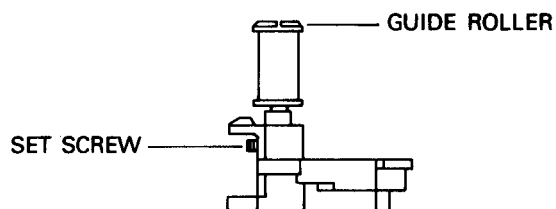

Fig. 12
6. Slightly loosen the set screw at the lower part of the S, T-guide rollers with a (Service Jig Kit-I ; Hex Wrench - 0.9mm) so that the guide roller can be adjusted with reasonable tightness. (Refer to Fig. 12)